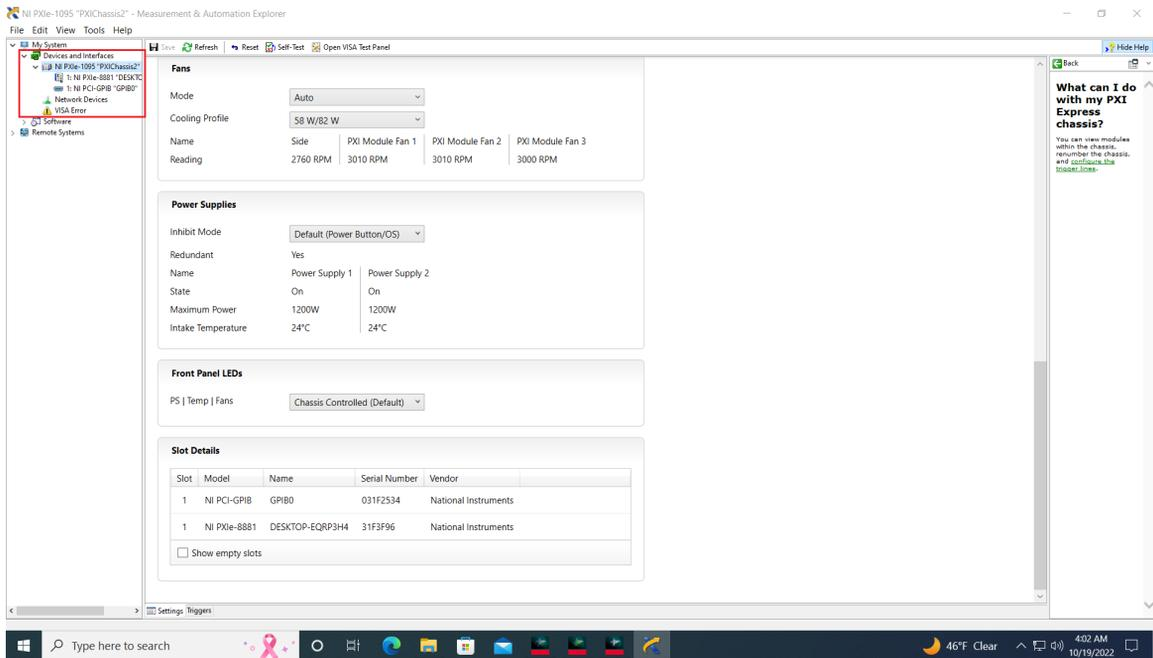

Figure 37 Non appearance of M5000 series modules in NI MAX interface
This issue is specific to the users who have installed one or more M5000 series modules in the National Instruments (NI) chassis. The modules may be detected by the Keysight IO Libraries Suite. However, if you do not see those under “Devices and Interfaces” in the NI – Measurement & Automation Explorer (MAX) Interface and see VISA error, as shown in **Figure 37**, the possible reason is that the NI associated drivers were not installed properly.